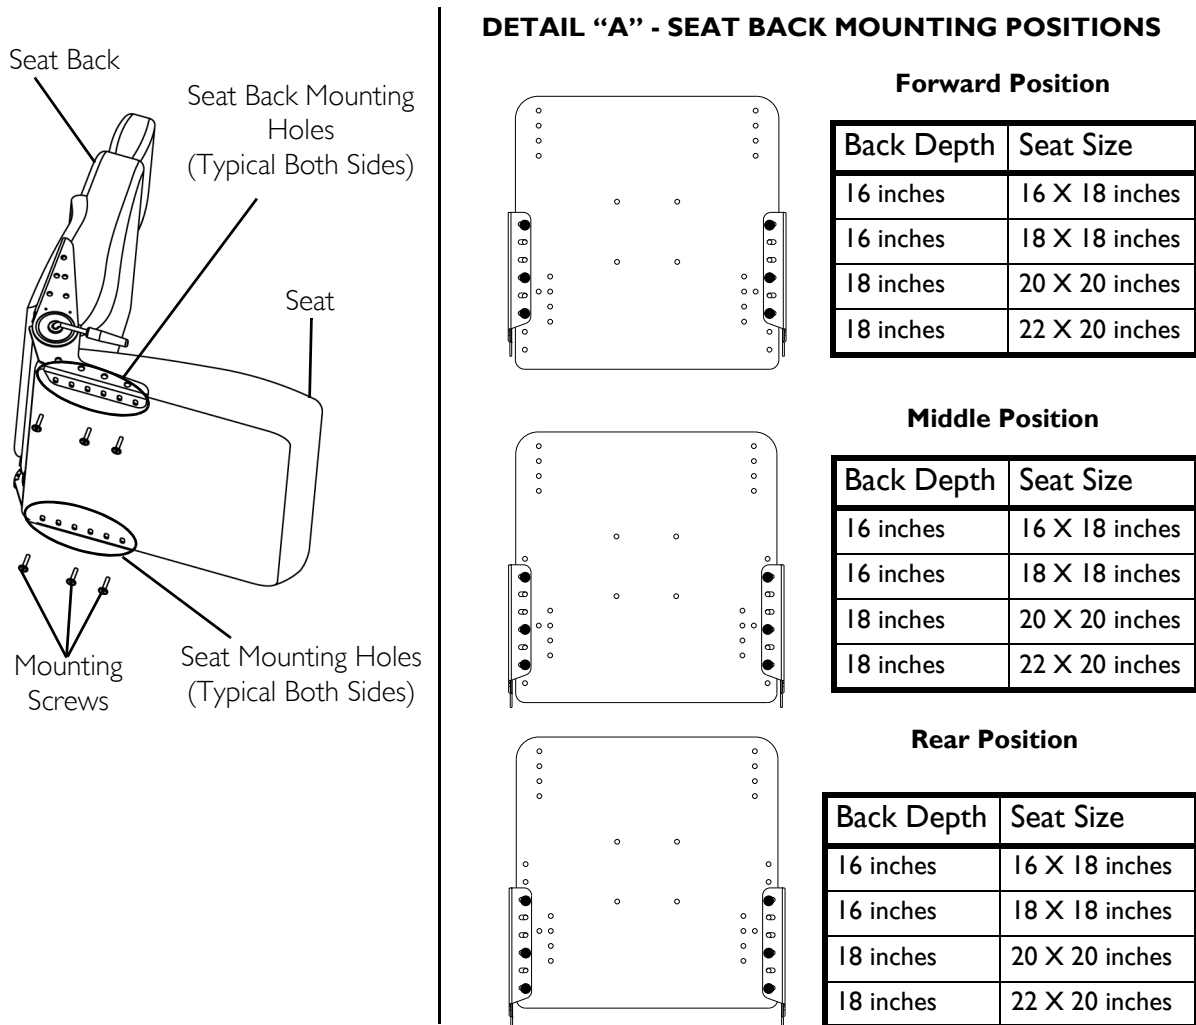

FIGURE 4.23 Adjusting the Van Seat Back Depth
NOTE: For this procedure, refer to FIGURE 4.23.
4. Align the seat mounting holes with the seat back mounting holes in the desired mounting position (Detail “A” of FIGURE 4.23).